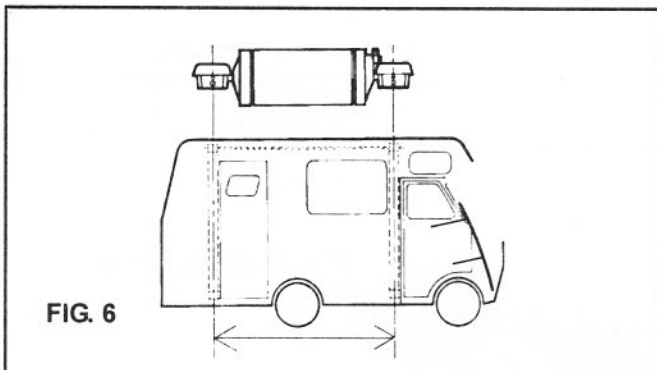

FIG. 6
6. Install Top Brackets. After the complete awning assembly has been threaded into the awning rail, check to be sure that its position allows for solid mounting of the top and bottom brackets and that support arms are in desired location (not restricting use of doors, access doors, windows, etc.). (FIG. 6)